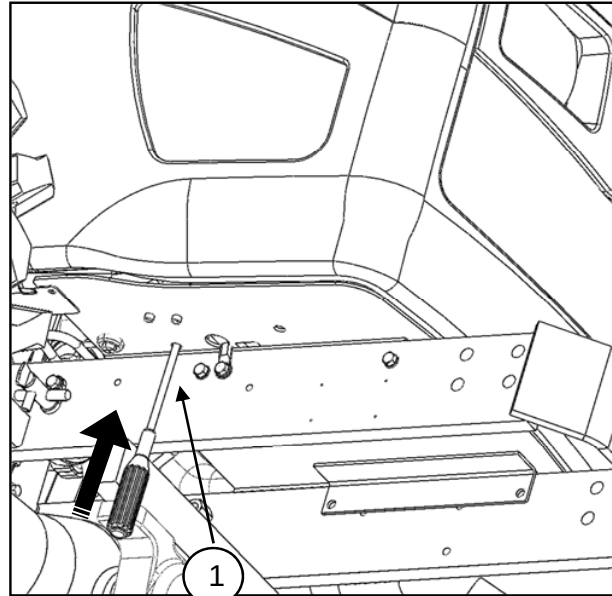
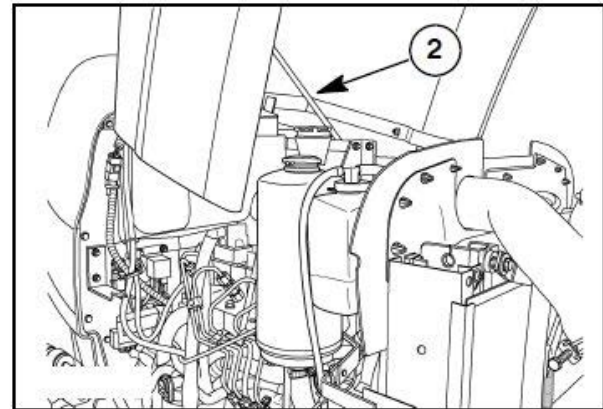

Figure 2-39
Figure 2-40
1. To raise the hood, insert the thin stick such as screwdriver, in the hole that located under the front of right side of hood and push up the latch release rod (1) in Figure 2-39, and lift the hood to its fully raised position. A hood prop rod (2) in Figure 2-40, holds the hood in the fully raised position.
Make sure hood prop rod (2) in Figure 2-40, is fully engaged in the latched position, before servicing any components that are located under the hood.
2. To close, lift hood until prop rod (2) in Figure 2-40, is not holding weight of hood, then pull forward on prop rod and then lower hood until it is retained by the latch mechanism.